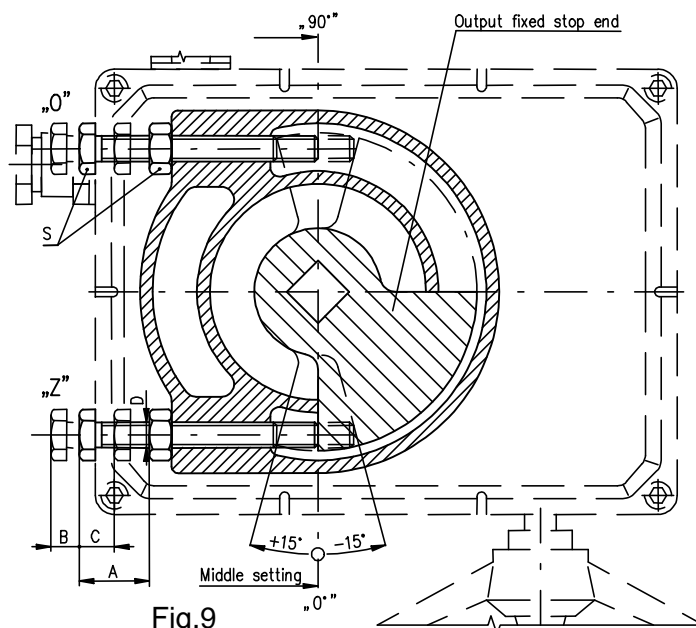

Fig.9
4.6 Resetting of operation angle and setting of stop end screws (Fig.9)
The valve operation angle position is defined with the stop end screws which allow to change the position from the position "Z" (closed - 0°) and from the position "O" (open - 60°, 90°, 120°, 160°) by a value of $\pm 15^\circ$. For better understanding see Fig. 9 where the output shaft is in the position "Z" for the operation angle of 90°. The stop end screws serve as mechanical limits of the operation angle position at manual control or as end travel points for torque switching-off, else the mechanical gearing could be damaged.
4.6.2 Setting of stop end screws at torque switching-off (Fig.9)